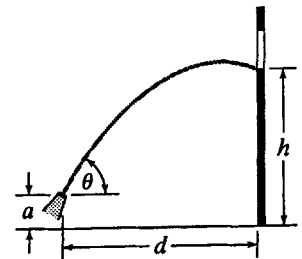

Figure X5.15.2
5.15.2 A water jet must reach the window in the wall shown in Fig. X5.15.2. Assuming a jet velocity of 25 m/s at the nozzle and neglecting air friction, find the angle (or angles) of inclination θ which will achieve this result, given $h = 14 \text{ m}$, $d = 23 \text{ m}$, and $a = 2 \text{ m}$.